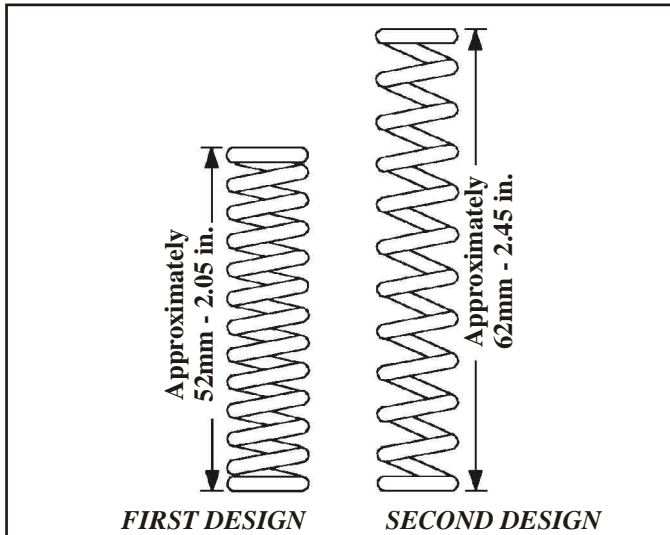

Figure 204
**IMPORTANT:** *There are two design servo springs as shown in Figure 204. If spring replacement becomes necessary, be sure that the proper design is being used as the two are NOT interchangeable.*